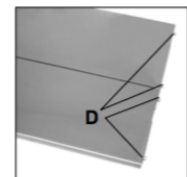

Figure 3
Before attempting to remove or replace the blade, the stainless steel table must be removed. To do this, remove the socket screws which attach the Table Support (D) to the table. Then, from the left side of the table, pull the table back and off. Once removed, place the table on a flat surface away from the machine to prevent damage while working with the blade. (Figure 3)
Remove the four socket screws from the table support as described on Page 7 (Figure 3). Then, from the left front side of the machine, hold the table in both hands and guide it up onto the two table guide wheels (BB) on that side. The wheels should fit the rails which are already attached to the underside of the table. Guide the table across the top of the machine to the guide wheels on the opposite side. Once the table is in place, reattach the table support. (Figure 15)